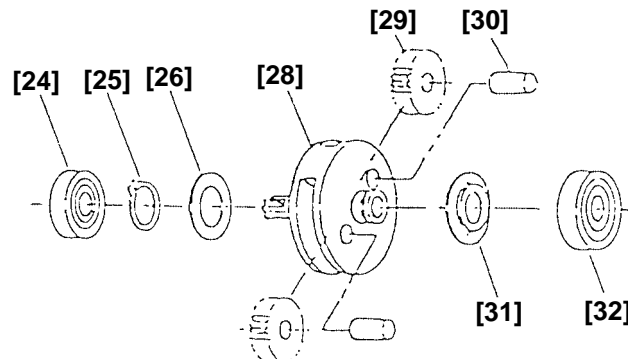

Fig. 29
(4) Second pinion section (Fig. 29)